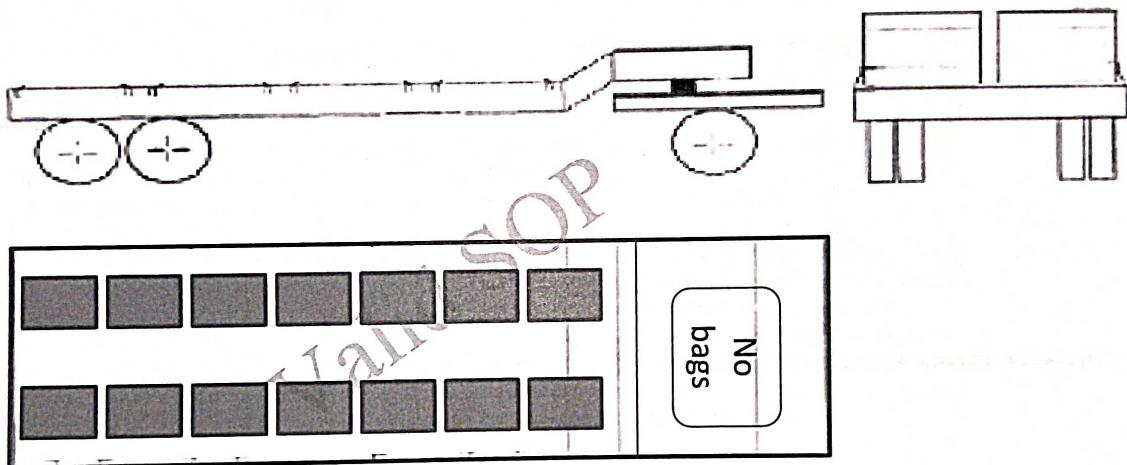
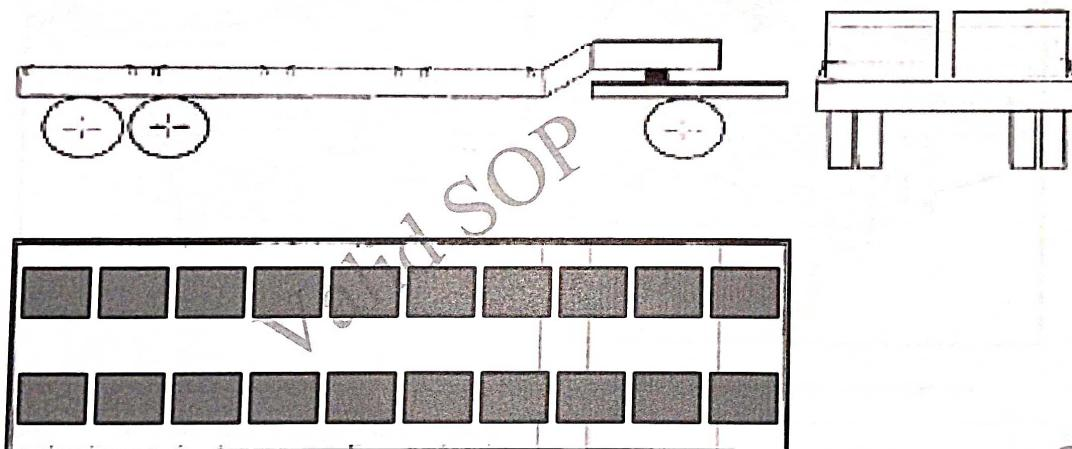

Figure 5: Configuration A - With 14 Bags – No Bags on the Head Side
Figure 8: Configuration D - With 20 Bags – accommodates 20 Nos. Standard Iron Oxide Bag on the Trailer Bed on single sections
5. Please find below figures – from Fig. 5 to Fig. 8.